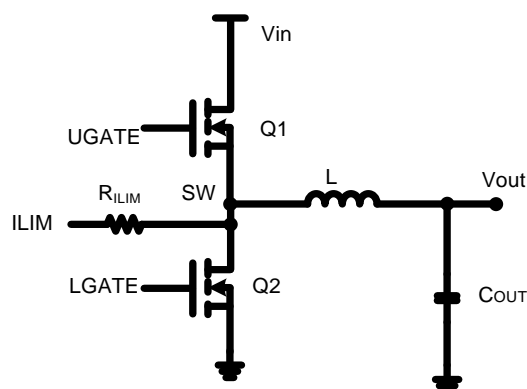
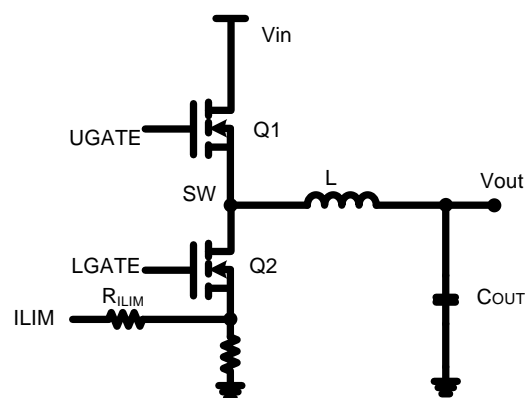

Figure14. MOSFET $R_{DS(on)}$ Current Sensing
Figure15. Shunt Resistor Current Sensing
in the JWH6346 so that only when output current drops below the valley current limit can the high-side MOSFET be turned on. To provide both good accuracy and cost effective solution, the JWH6346 supports temperature compensated MOSFET $R_{DS(on)}$ sensing mode and shunt resistor sensing mode, and it detects the appropriate mode at start-up and sets the source current amplitude and temperature coefficient (TC) accordingly. Figure14 portrays the $R_{DS(on)}$ sensing mode which resistor R_{ILIM} is tied to SW to use the $R_{DS(on)}$ of the low-side MOSFET as a sensing element (termed $R_{DS(on)}$ mode) and Figure15 shows the shunt resistor sensing mode which R_{ILIM} is tied to a shunt resistor connected at the source of the low-side MOSFET (termed R_{SENSE} mode).